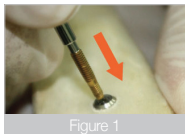

Figure 1
- After selecting the fixture remover screw that is the appropriate size for the size of the screw hole inside the implant that needs to be removed, connect it to the FR screw hex driver and apply a torque of 40~80Ncm to the implant. (Figures 1, 2)